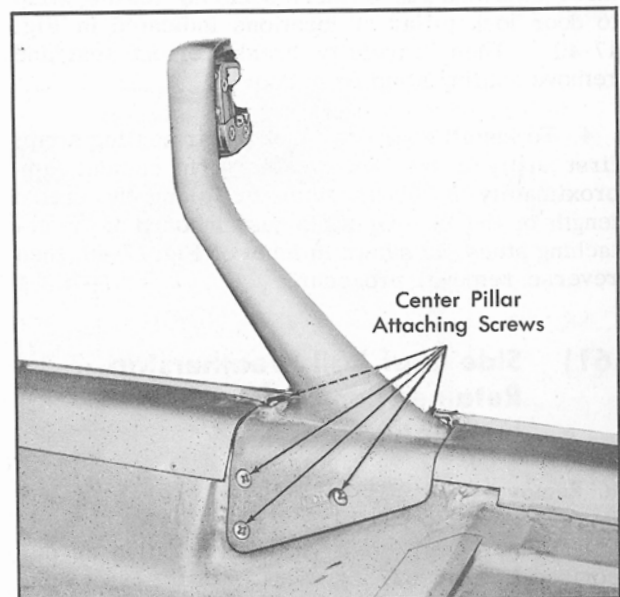

Fig. 17-42 Center Pillar Attachment
4. Remove five center pillar attaching screws, Fig. 17-42, and remove center pillar assembly.